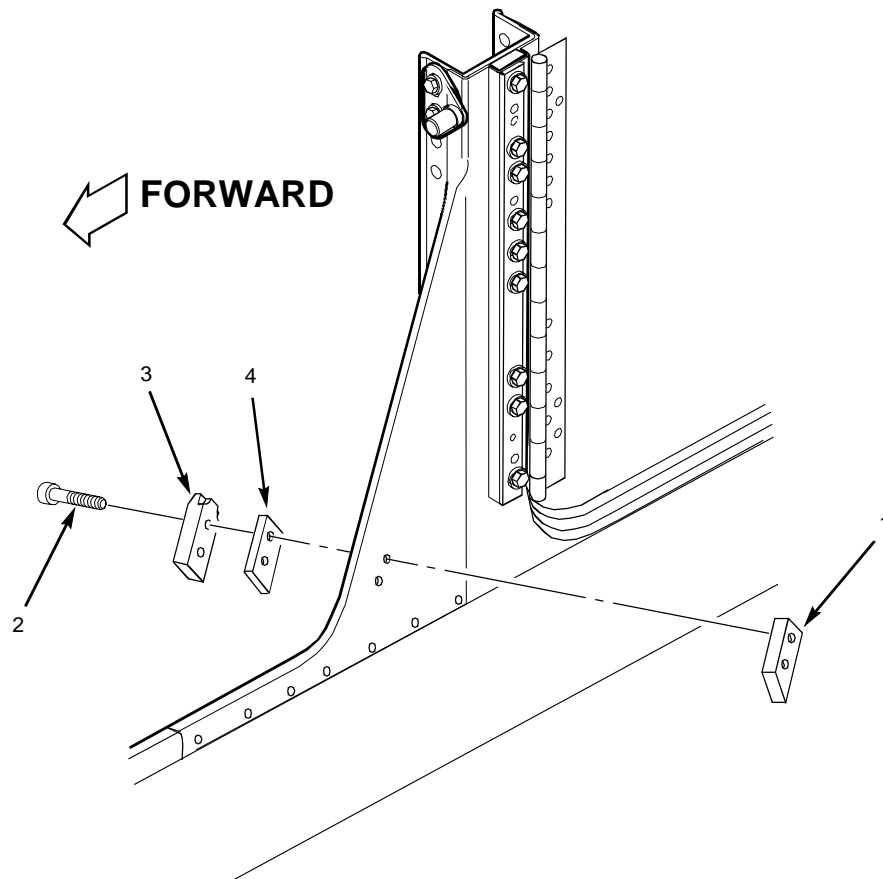

Figure 2-6. Front Door Ramp Block Removal (2 and 4 Door)
4. Remove front door ramp block (see figure 2-6).
- a. Remove two capscrews (2), front door ramp block (1), lower front ramp block (3), and spacer (4).